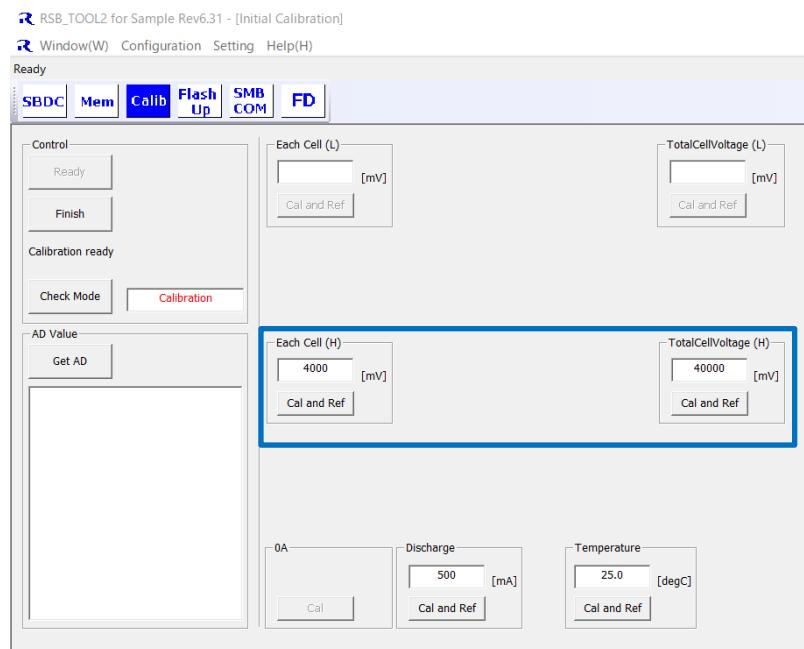

Figure 26 One-point calibration
- a. Cell all (H): 4000 [mV]
- b. PackCellVoltage (H) : 40000 [mV]
4. Apply **40V** between V+ and V- using PS #1. Then, click “**Cal and Ref**” button in blue-highlighted area of Figure 26.